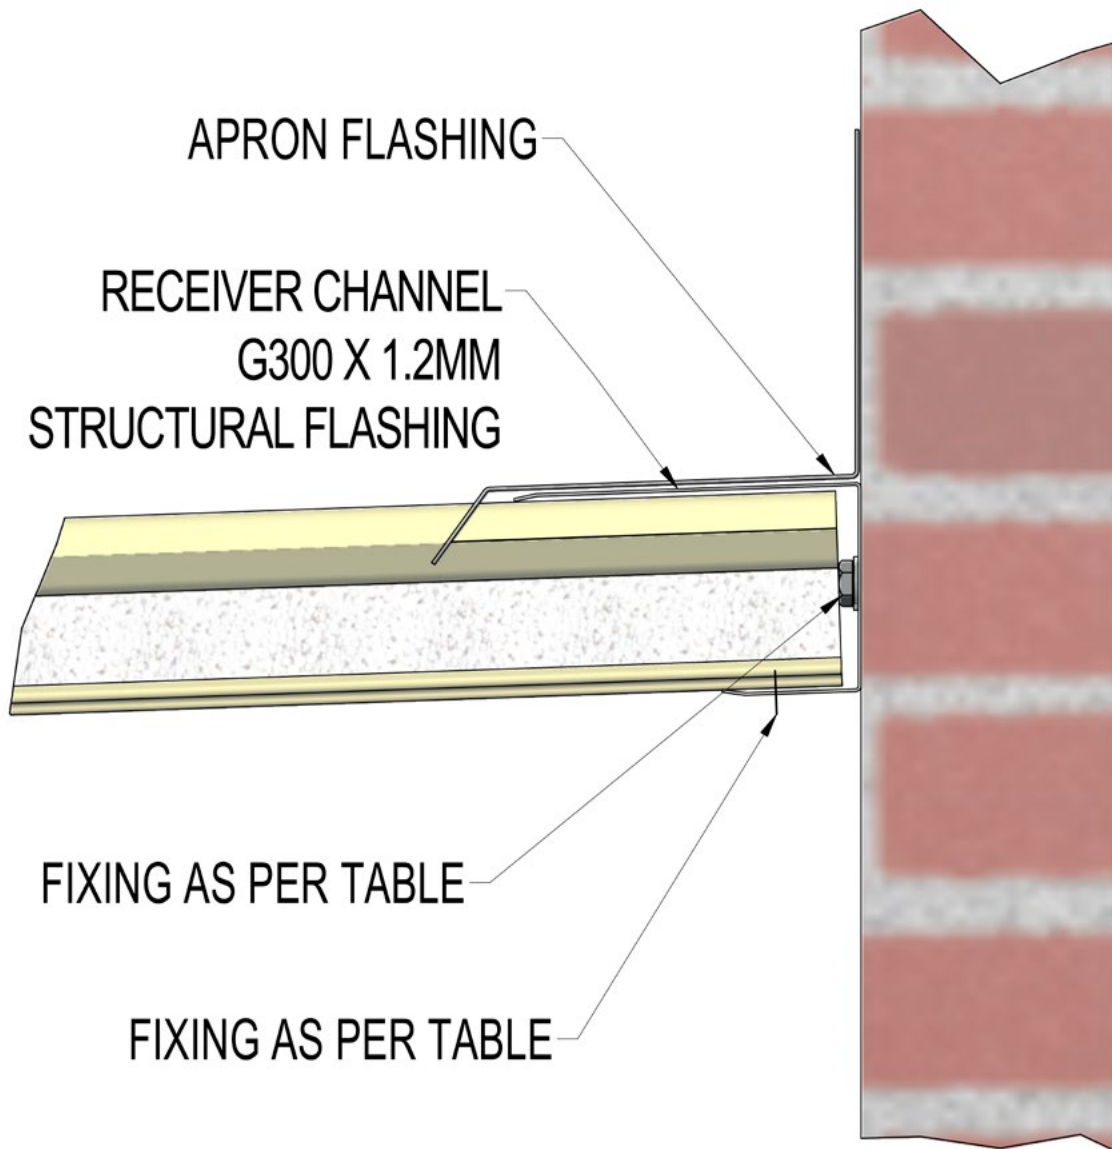

Figure A32
**Roofing to Blockwork Wall (see Figure A32)**